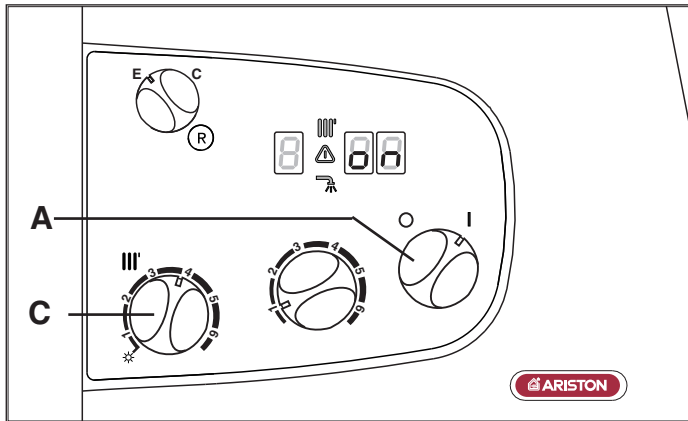

FIG. 2.27
- Supply power to the boiler by turning the On/Off knob "A" (see FIG. 2.27) - "on" will appear on the display. Turn the knob "C" to maximum and switch the time clock to constant and turn up the room stat where fitted. After 7 seconds, the boiler will signal a shutdown due to ignition failure. Leave the boiler as it is until all of the air has been bled from the system.